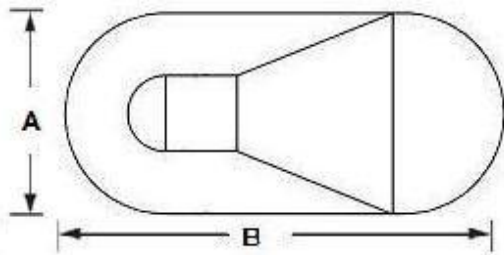
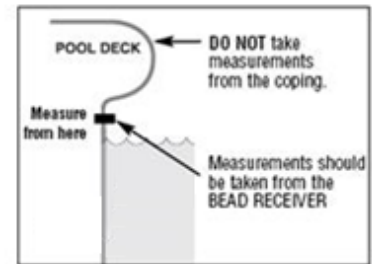

Figure 1
Figure 2
Referring to the illustration of your oval pool (figure 1), be sure that the width (A) and the length (B) measurements are made at the bead receiver (where the liner snaps into the track), not at the edge of the coping (the edge of the pool deck). See figure 2.